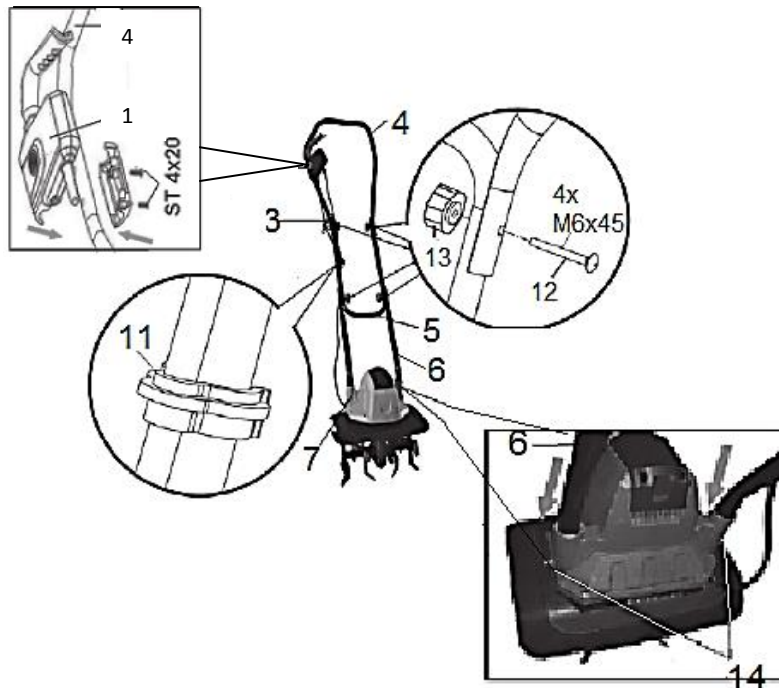

Fig. 2
14. M4x20 Screws (Please see Fig 2)
15. ST4x20mm x 2 (Please see Fig 2)
Insert the safety switch (1) to the guide bar upper section (4) by clipping the 2 sections of the safety switch onto the guide bar upper section (4) and secure with the two screws ST4x20 and tighten. Then fit the two cable clips (11) to hold the cable, as shown in Fig 2.